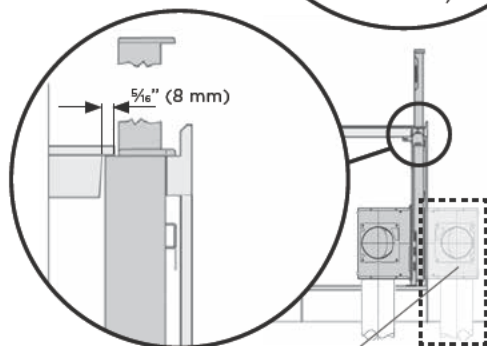

Fig.25
- Check to make sure that the rear edge of the cooktop overlaps the front edge of the downdraft unit by $\frac{5}{16}$ " (8 mm) Fig.25.